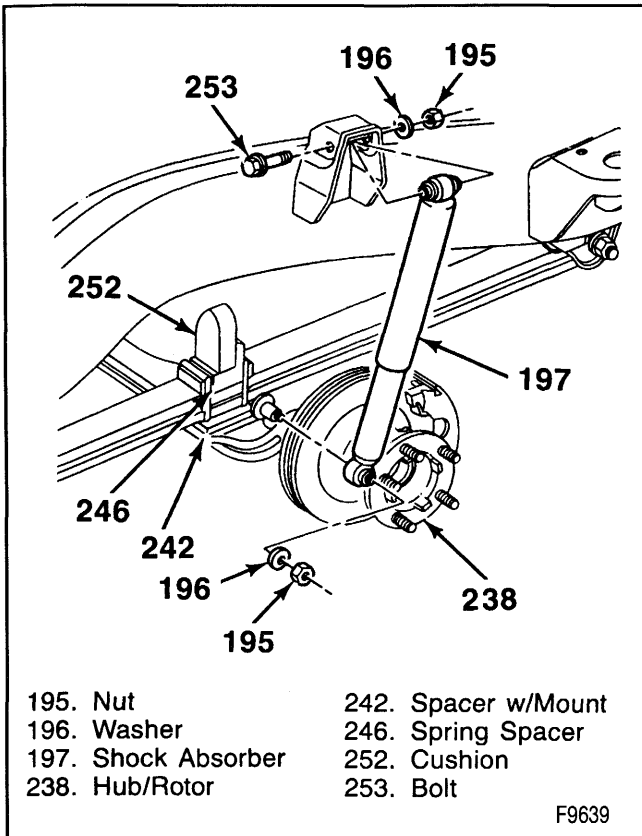

Figure 47—Shock Absorber Attachment Points
- Shock absorber (197) to the frame (figure 47).
- Insert bolt (253) through the upper shock bracket and shock absorber.
- Washer (196) and nut (195).
- Shock absorber to the leaf spring spacer (242) (figure 47).